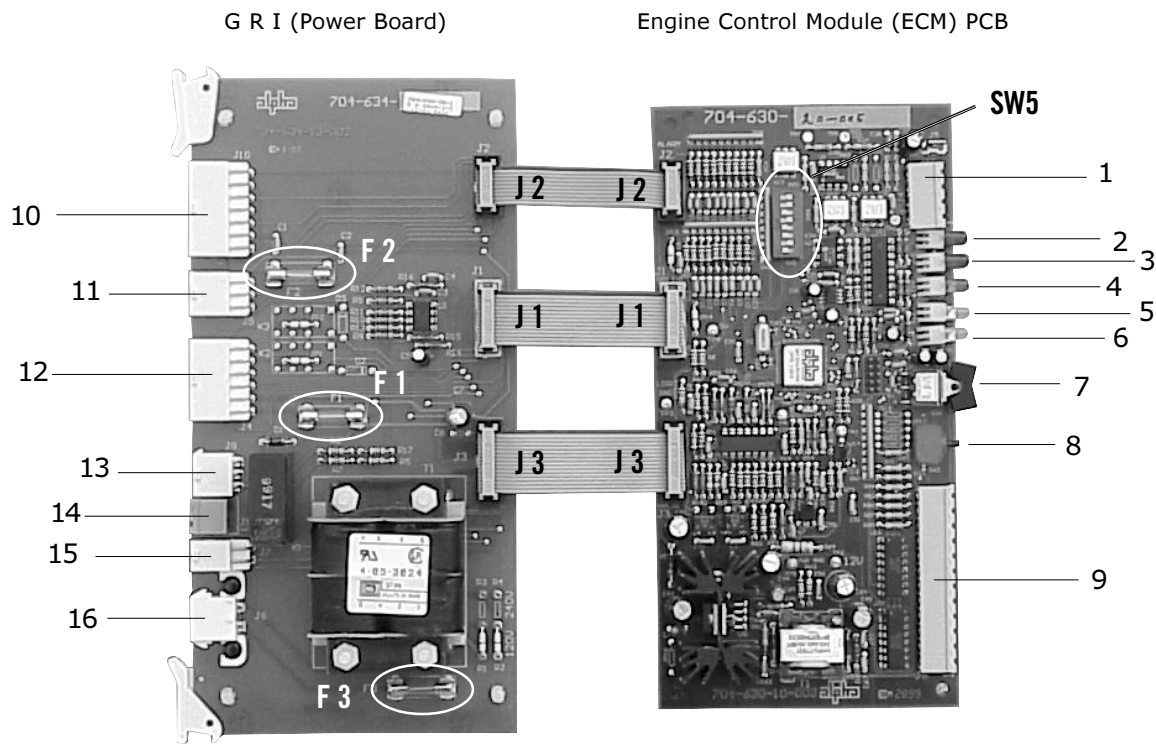

Fig.4-9 ECM Printed Circuit Boards
The connector is a 14 pin 0.100" spaced, 150V rated ribbon cable with polarized cable connectors that prevent incorrect connections in the field. Designations for the connector mounted on the PCBA shall be identified by silk screen "J1" and marked with the #1 pin of the PCB receptacle for polarization. See Fig. 4-9 for location.
This connector is a 10 pin 0.100" spaced, 150V rated ribbon cable with polarized cable connectors that prevent incorrect connections in the field. Designations for the connector mounted on the PCBA shall be identified by silk screen "J2" and marked with the #1 pin of the PCB receptacle for polarization. See Fig. 4-9 for location.
This connector is a 16 pin 0.100" spaced, 150V rated ribbon cable with polarized cable connectors that prevent incorrect connections in the field. Designations for the connector mounted on the PCBA shall be identified by silk screen "J3" and marked with the #1 pin of the PCB receptacle for polarization. See Fig. 4-9 for location.
The Alarm Interface Connector (J10) connected to the Power PCBA. The interface control is a 14-pin (2x7 row) Universal Mini Mate-‘N’-Lok style male connector. See Fig. 4-9, item 10 for location.